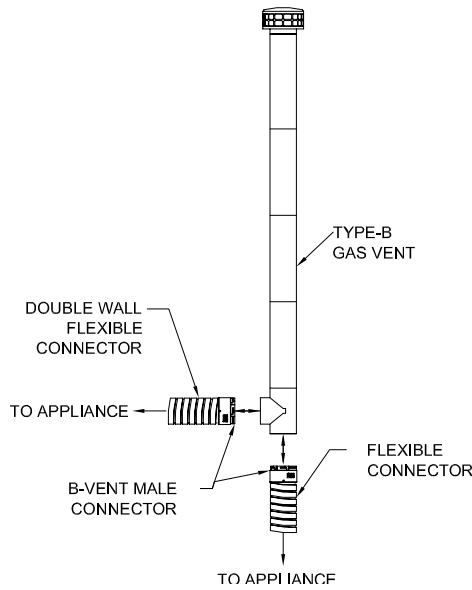

**FIG. 2**
- b. Inlet of the Type-B gas vent system (See **FIG. 2**), or